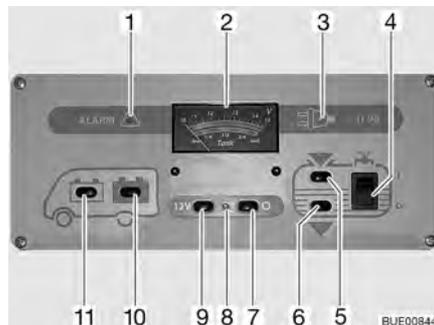

Fig. 133 Panel IT 96-2
The 12 V main switch (Fig. 133,7 and 9) switches the panel and the 12 V power supply to the living area on and off.
- Press switch (Fig. 133,9) "12 V": The 12 V living area power supply is switched on. The indicator lamp (Fig. 133,8) lights up green.
- Press switch (Fig. 133,7) "O": The 12 V living area power supply is switched off. The indicator lamp (Fig. 133,8) goes out.
With the V/tank gauge (Fig. 133,2), note the top scale. The gauge automatically lights up as soon as a switch is pressed.
- Press switch (Fig. 133,11) : The battery voltage of the starter battery is displayed.
- Press switch (Fig. 133,10) : The battery voltage of the living area battery is displayed.
The V/tank gauge is for the indication of the quantity of water or waste water. With the V/tank gauge (Fig. 133,2), use the bottom scale. The gauge automatically lights up as soon as a switch is pressed.
- Press switch (Fig. 133,5) "": The volume of water is displayed.
- Press switch (Fig. 133,6) "": The volume of waste water is displayed.
Switching on: ■ Press the upper part of the rocker switch (Fig. 133,4) "I": The water supply is ON.
Switching off: ■ Press the lower part of the rocker switch (Fig. 133,4) "O": The water supply is OFF.
The red "ALARM" warning light (Fig. 133,1) flashes as soon as the voltage of the living area battery falls below 11 V (measured under operation) and there is a risk of a total discharge.
The 12 V indicator lamp (Fig. 133,8) illuminates whenever the 12 V main switch (Fig. 133,9) is switched on.
The yellow 230 V indicator lamp (Fig. 133,3) illuminates whenever line voltage is available at the transformer/rectifier input.